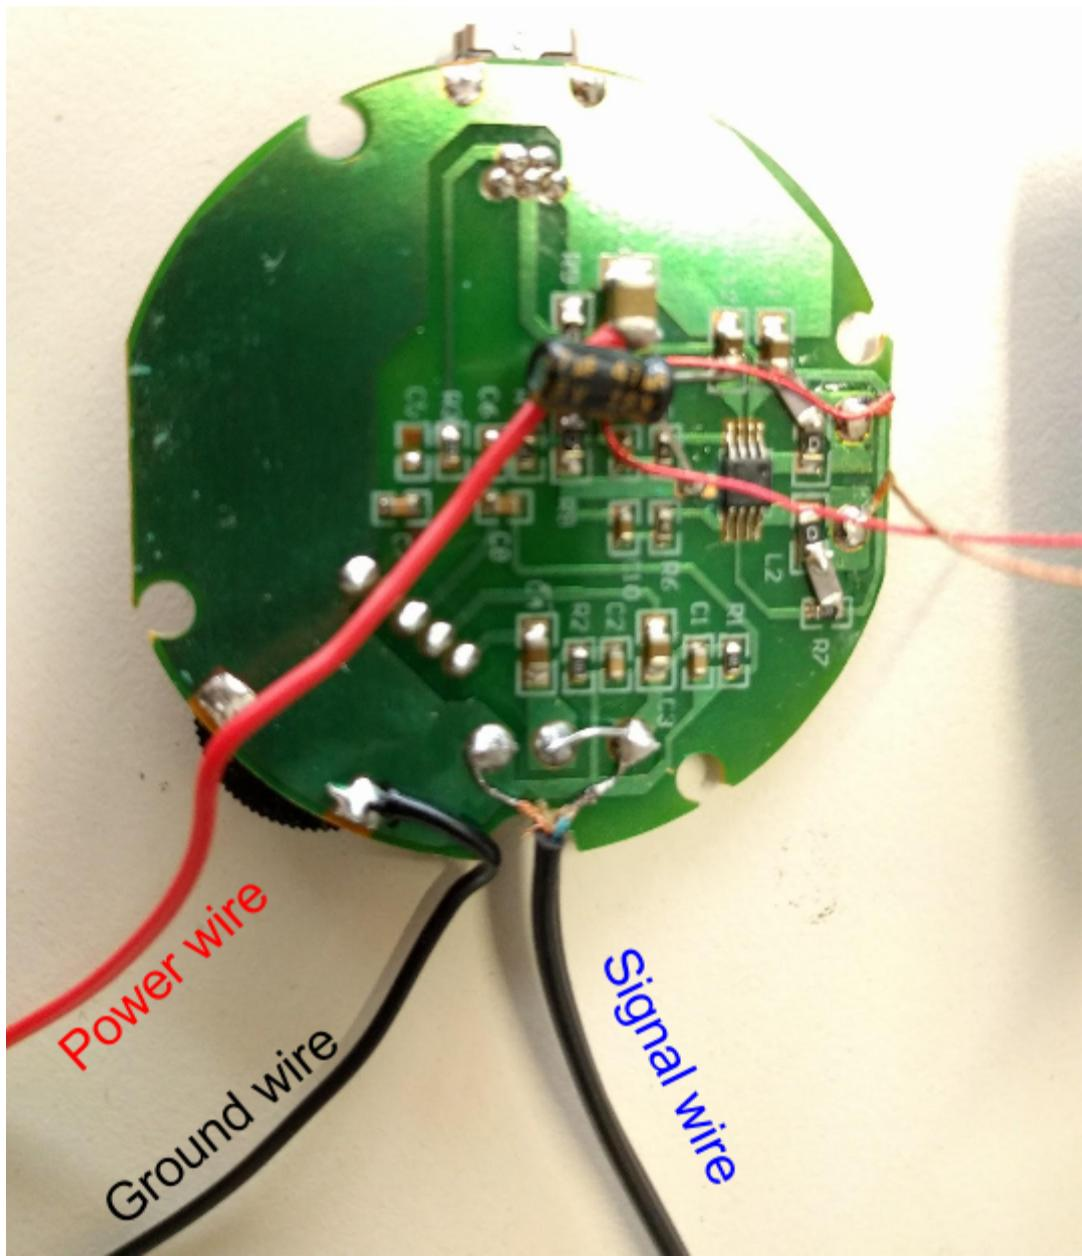

Figure 1.5: Loudspeaker soldered with power and ground wires
- Connect the step down converter to the battery and to the Raspberry Pi. Make sure the +5V output from the converter go to the red power wire of the Pi (refer to Figure 1.5) and the ground pin of converter is connected to ground pin of Pi, as in the photo below (ignore the values written on the battery):